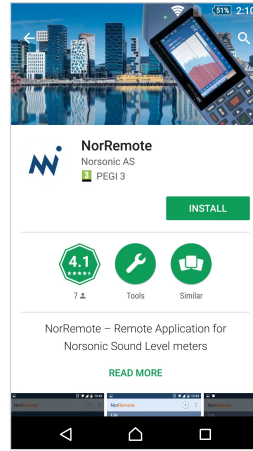

Figure 19.10 - Search for "NorRemote" and install the App.
- c. Install NorRemote, and open the application (Figure 19.10).